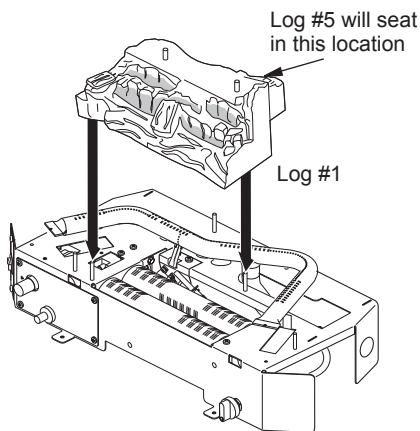
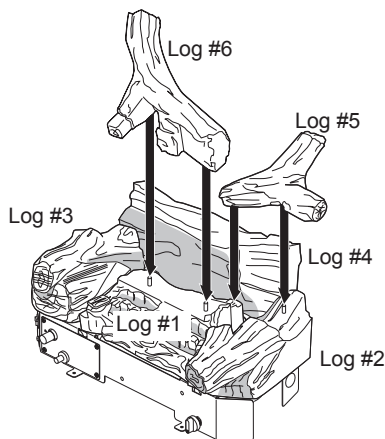

Figure 19 - Installing Log #1 (Ember Bed)
Figure 25 - Installing Log #5 and Log #6 (Model VRL30NR Shown)
1. Place log #1 (ember bed) onto base over alignment screws to left of front burner and behind middle burner. Log #1 will sit on top of front and middle burners (see Figure 19).
1. Place log #1 (ember bed) onto base over log alignment screws to the left of front burner and behind middle burner. Log #1 will sit on top of front and middle burners (see Figure 19, page 18).
5. Locate hole on bottom of log #5 and place over pin on log #2. Log #5 will rest on back of log #1 (ember bed). See Figure 19, page 18 and Figure 25.
6. Place log #6 onto two pins on log #1 (ember bed) and rest back of log #6 on back log #4 (see Figure 25).